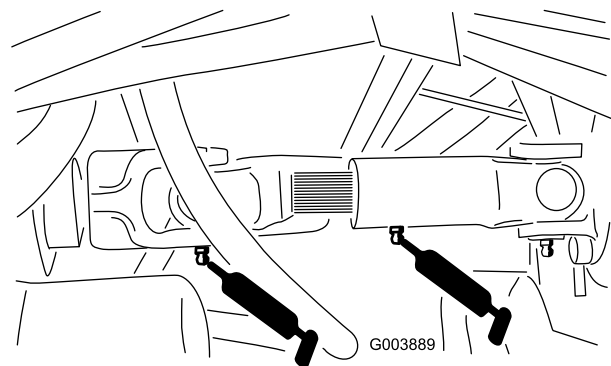

Figure 42
- 3 fittings on the engine drive shaft (Figure 42)